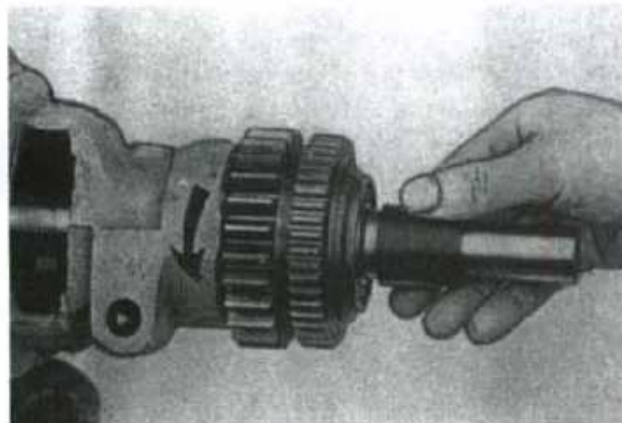

Fig. 97—Chart used in selecting shim to adjust correct thickness of direct drive (high) clutch components. Refer to text.
Turn clutch cup over and measure the distance from retaining ring groove to face of piston. Record as dimension "A". Using a micrometer, measure thickness of direct drive (high) clutch components; retaining ring (8), back plates (9 and 12), two separator plates (11) and three friction discs (10). Measure the stack in four places. The thickest measurement will be dimension "B". Subtract dimension "B" plus 0.035 inch (0.899 mm) from dimension "A". The result will be dimension "C". Refer to chart in Fig. 97 and select correct shim or shims as required to obtain a correct dimension "C" of 0-0.015 inch (0-0.381 mm). Install the predetermined shim, piston back plate (12—Fig. 95), friction disc (10), separator plate
(11), friction disc (10), separator plate (11), friction disc (10), clutch back plate (9) and retaining ring (8). Check to see that direct drive clutch plates are free to rotate and that minimum clearance between retaining ring (8) and back plate (9) is 0.030-0.040 inch (0.762-1.016 mm). Place clutch in a press and compress Belleville washers until the direct drive clutch plates are just locked. Then, check to see that low clutch plates are free to rotate and that minimum